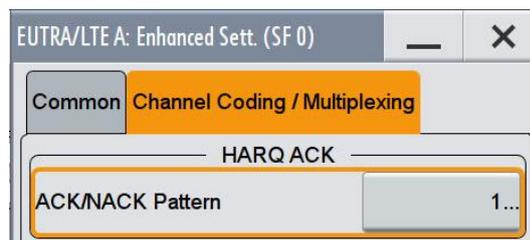

Fig. 3-87: Set one bit ACK pattern to '1' (ACK)
- Set the **ACK/NACK Pattern** (one bit) to '1' (Fig. 3-87)